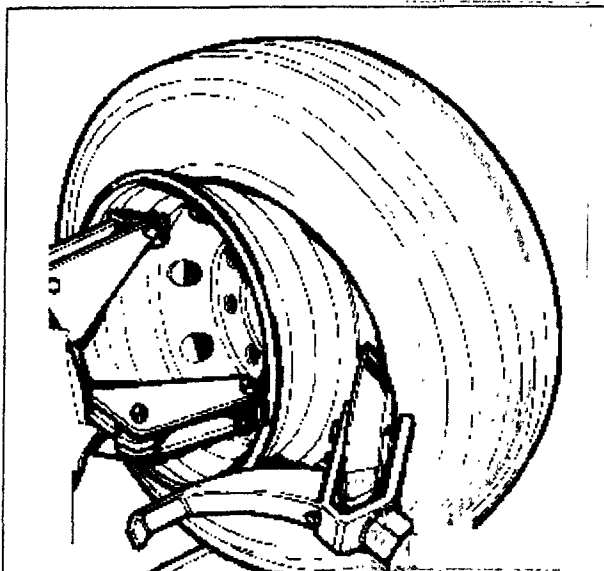

Fig.33
5. Demount the inner bead with the bead breaker disc, as described in @5.2.7 (Fig.33).